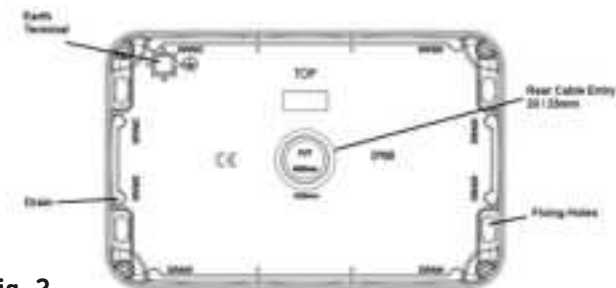

Fig. 2
- The backbox has drain hole drilling guides marked (see Fig. 2). Drilling a drain hole is advised if the unit is installed in a location subject to temperature fluctuations where build-up of condensation may occur. It is not advised if the unit will be subject to high pressure jets, as drilling a drain hole will reduce the IP rating. A 3–5mm hole should be drilled at the bottom back edge of the enclosure where marked. If wiring in conduit to the bottom entry, then the drain hole should be drilled at the lowest point of the conduit run not in the backbox